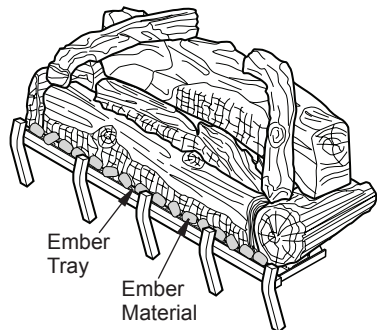

Figure 32 - Applying Ember Material
4. Break ember material into quarter sized pieces and place a single layer along the full length of ember tray to hide bottom edge of base log. (see Figure 32).